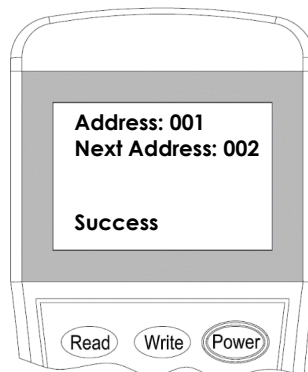

Figure 8
3. Input the desire device address value from 1 to 254, and then press **“Write”** to save the new address (Figure 8).